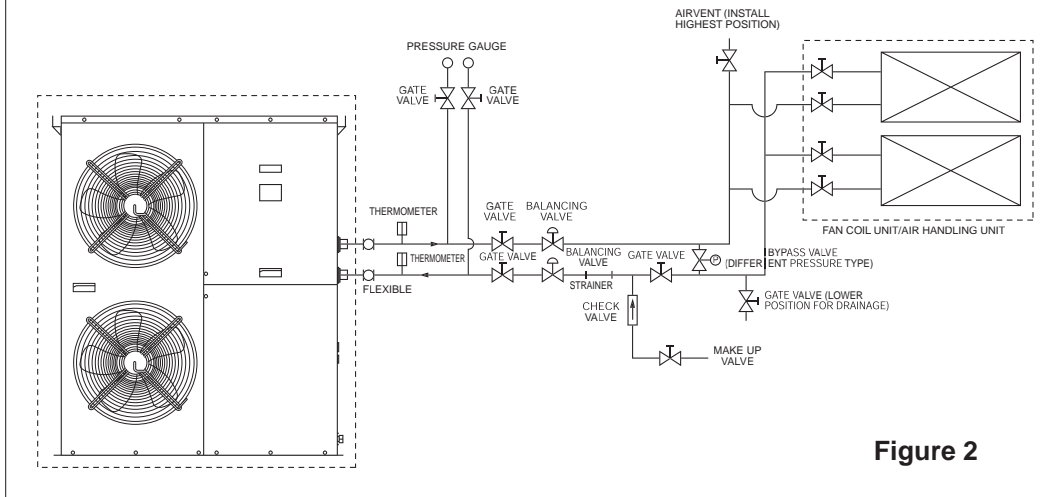

Figure 2
- Users are recommended to install the pipe and accessories as shown in Figure 2 & 3.